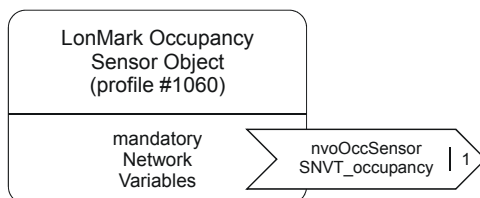

Fig. 9. Occupancy Sensor Object
- one occupancy sensor object (#1060) (see Fig. 9)